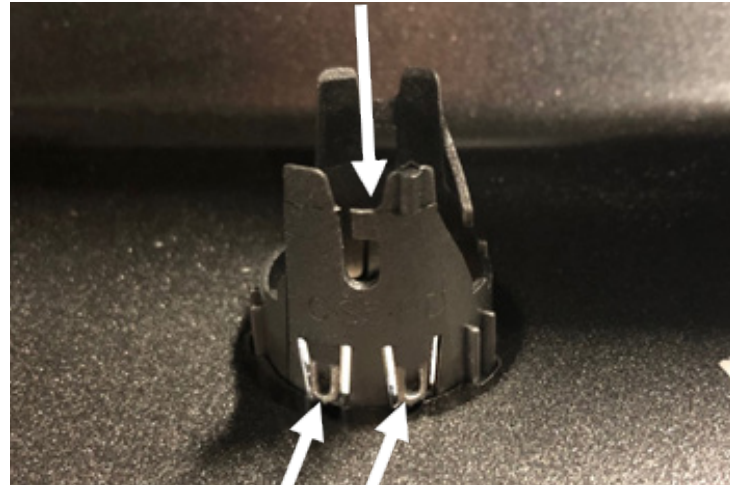

Figure 20
19. Remove the sensor housings from the bumper by pressing the retainer clips in on the sides and pushing the housing out. Figure 20.